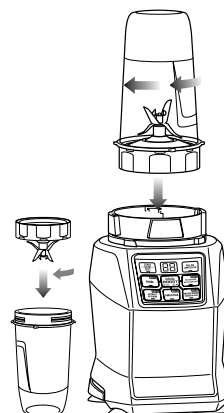

Fig. 1
- 4 Place the Pro Extractor Blades™ Assembly onto the cup and tightly screw it on clockwise until you have a good seal. (Fig. 1)